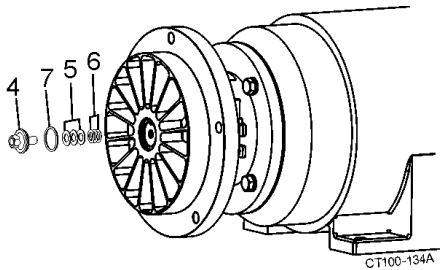

**Figure 37 - Clamp Impeller/Backplate to Motor Adapter**
5. Install the clamp and position the bolt/nut connection at 7 o'clock, allowing easy access to the front cover bolts. (Figure 37).